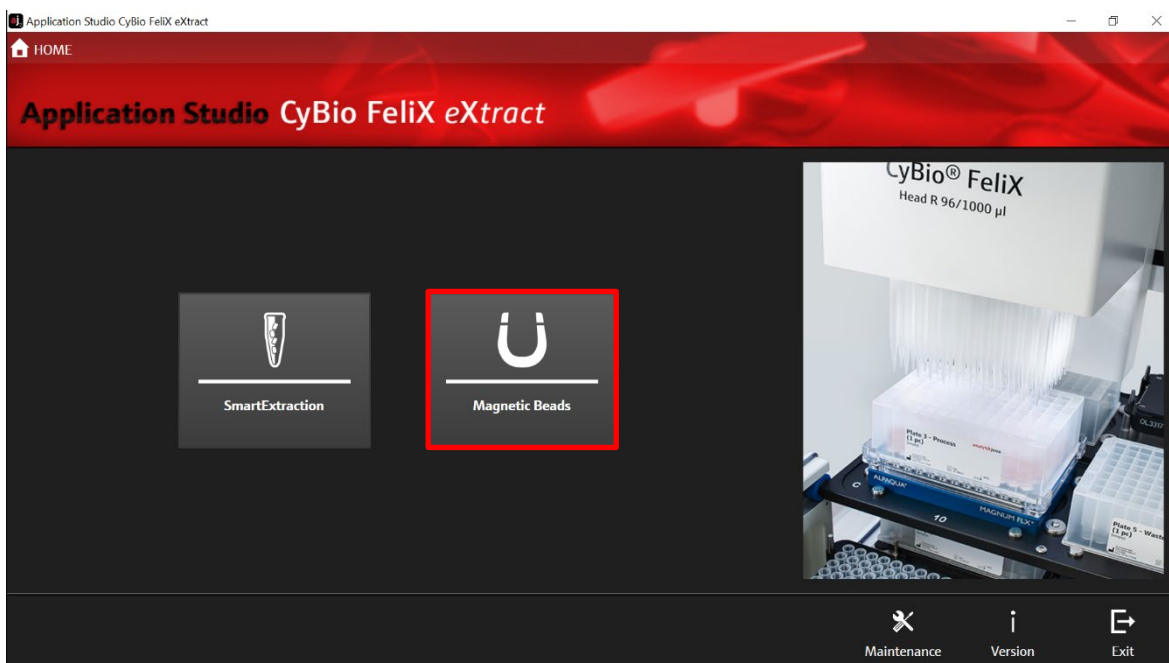

Figure 20: Home screen of the AppStudio FeliX *eXtract*. Selection of extraction technology: Magnetic Beads.
14. Select “Magnetic Beads” (→ see Figure 20).